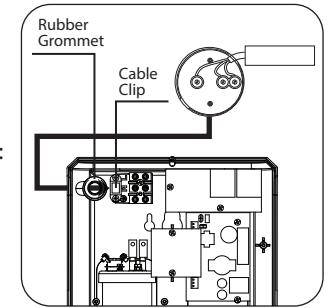

Fig. 3
1. Poke the electrical cable through rubber grommet by cutting a hole at the rubber grommet and lead the cable to cable clip (Fig. 3).